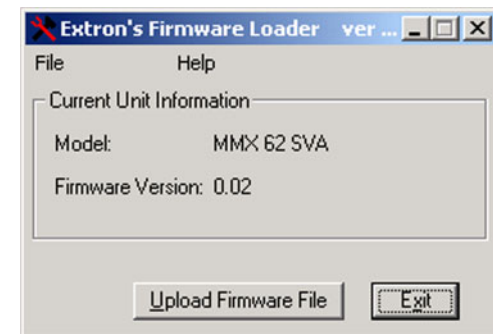

Figure 4-6 — Extron's Firmware Loader
2. From the drop-down menu, select Update Firmware. A box showing the current firmware version will be displayed (see figure 4-6).